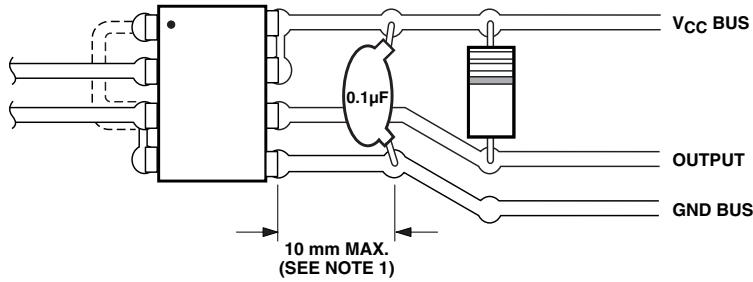

Figure 15. Recommended Printed Circuit Board Layout.
1. Bypassing of the power supply line is required with a $0.1 \mu\text{F}$ ceramic disc capacitor adjacent to each optocoupler, as illustrated in Figure 15. Total lead length between both ends of the capacitor and the isolator pins should not exceed 10 mm.
8. CM_L is the maximum tolerable rate of fall of the common mode voltage to assure that the output will remain in a low logic state (i.e., $V_{\text{OUT}} < 0.8 \text{ V}$). This specification assumes that good board layout procedures were followed to reduce the effective input/output capacitance as shown in Figure 15.